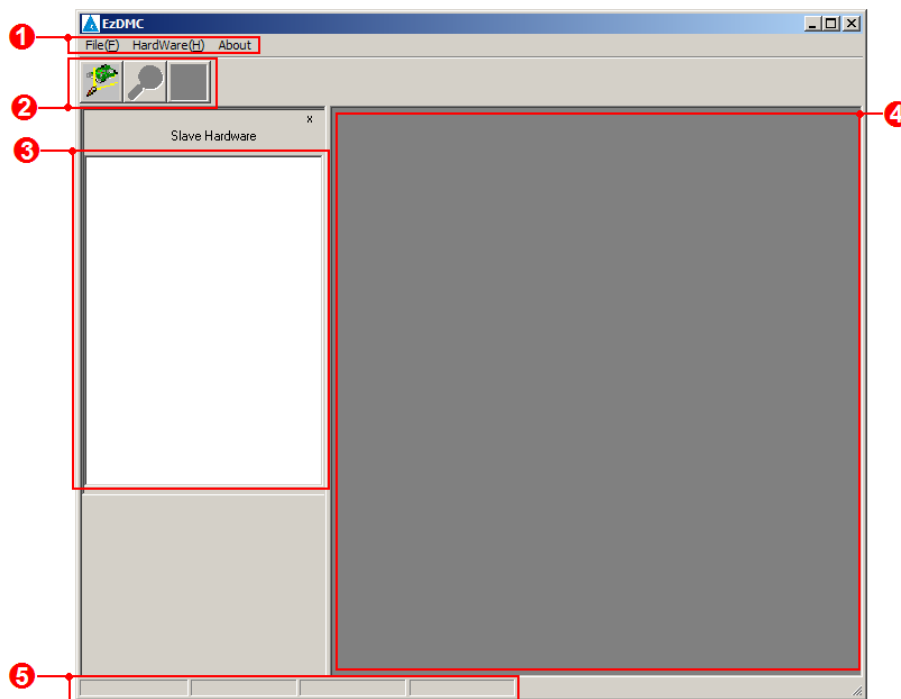

Figure 3.1
As shown in Figure 3.1, once you launch EzDMC the following program screen will appear on your computer system. The very top is the function menu block (❶). Below the function menu block is the toolbar (❷). There are two display blocks beneath the toolbar: The left display block (❸) displays the control system and expansion module list; the right display block (❹) is used expansion function's basic messages and command console. Part of the window is the SDI operation mode that shows various information. Below the display screen is the program status display block (❺). It not only shows the system's basic connection status but also the connection details.